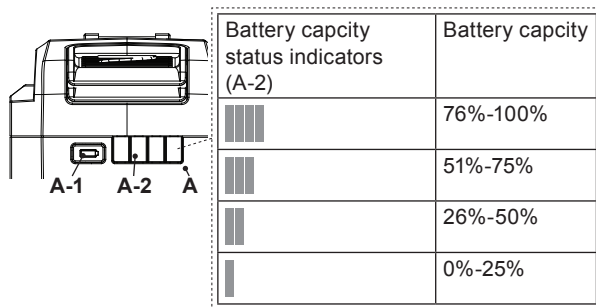

Fig. 5
The battery pack (A) is equipped with battery capacity status indicators (A-2) which are used to give an indication of the battery pack's remaining capacity. Press the battery capacity button (A-1) to check battery capacity (Fig. 5). The LEDs will stay lit for approximately 5 seconds.